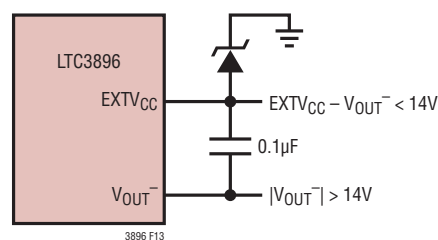

Figure 13. Using a Zener Diode Between  $EXTV_{CC}$  and Ground
4.  $EXTV_{CC}$  connected to ground through an external Zener diode. If the output voltage is more negative than  $-14\text{V}$ , a Zener diode can be used to drop the necessary voltage between ground and  $EXTV_{CC}$  such that  $EXTV_{CC}$  with respect to  $V_{OUT-}$  remains below 14V (Figure 13). In this configuration, a bypass capacitor from  $EXTV_{CC}$  to  $V_{OUT-}$  of at least  $0.1\mu\text{F}$  is recommended. An optional resistor between  $EXTV_{CC}$  and  $V_{OUT-}$  can be inserted to ensure adequate bias current through the Zener diode.